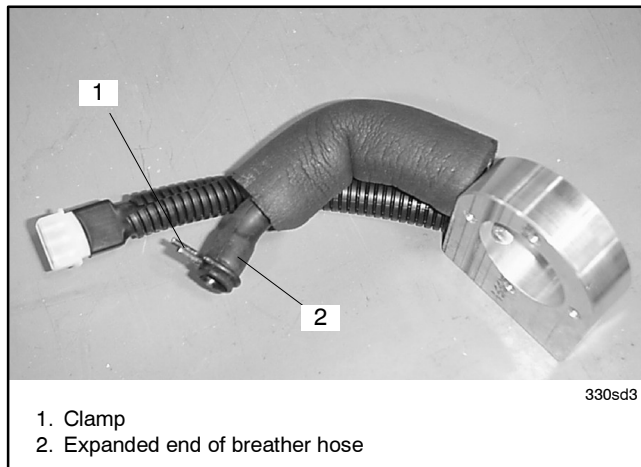

Figure 8 Breather Hose and Clamp
- 4.6 Slip the 2-inch length of breather hose onto the end of the breather tube. Insert the breather tube into the small end of the hose until the end of the breather tube reaches the expanded diameter of the hose. See Figure 8.